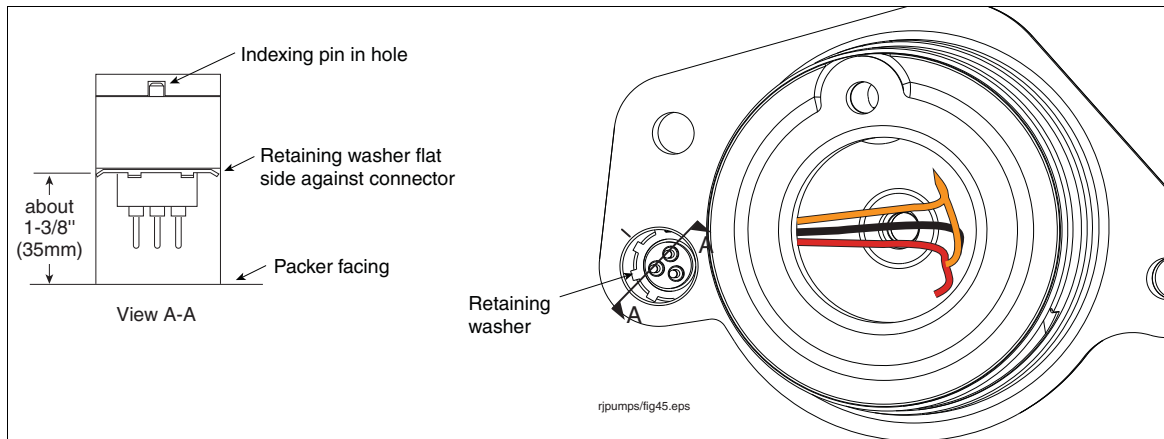

Figure 42. Correct depth of male connector in packer socket
13. Thread the wires of the new male connector down into the socket and out through the opening in the base of the socket into the packer wiring compartment. Gently pull the wires into the wiring compartment as you align the masking tape mark on the connector with the felt tip mark on the packer facing. When you have pushed the connector all the way into its socket it should not rotate if the indexing pin is in the index hole. Using the small ruler, measure the distance from the packer facing down to the connector, it should be a little more than 1-3/8" (35mm) (see Figure 42). Hold the wires tight to keep the connector in position and insert the retaining washer (with upturned teeth facing out) forcing it down until it is firmly against the connector. Recheck the 1-3/8" (35mm) measurement after installing the retaining washer to confirm that the connector is at the proper depth.